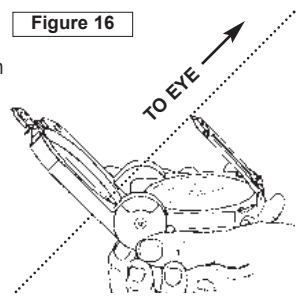

Figure 16
2. Open cover away from your body. (Fig 16)
5. Look just over the large sight, and at the object through window opening on mirror. (Fig 16)